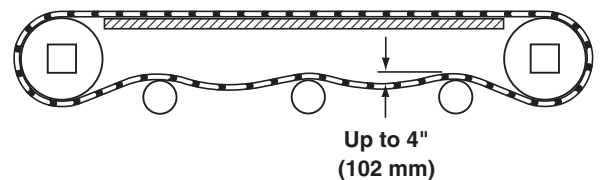

Figure 40
4. Check belt sag by measuring from the top of the return (Figure 40). Belt sag should not exceed 4" (102 mm). Follow steps 7 – 9 in the "Belt Installation" section on page 14 to remove slack from the belt.